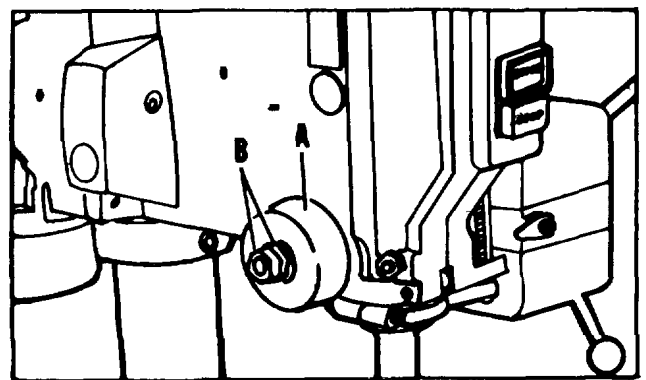

Figure 1. Adjusting Spindle
For the purpose of automatically returning the spindle upward after a hole has been drilled, a spring is provided enclosed in the case (A) Fig. 1, and is located on the left side of the drill press head. This spring has been properly adjusted at the factory and this adjustment should not be disturbed unless absolutely necessary.
1. Back off the two nuts (B) Fig. 1. NOTE: Do not remove the inside nut from the shaft. The nuts (B) should be backed off just far enough so that the spring housing (A) can be disengaged from the roll pin in the head casting.
2. With a firm hold on the spring housing (A) Fig. 1, disengage it from the pin in the drill press head, by pulling the housing straight out, and turn the housing counterclockwise to increase or clockwise to decrease tension. CAUTION: BE CAREFUL NOT TO BOTTOM THE RETURN SPRING WHILE TURNING THE HOUSING COUNTERCLOCKWISE. THERE SHOULD BE ENOUGH SLACK LEFT IN THE SPRING TO PERMIT LOWERING THE SPINDLE THE FULL AMOUNT OF TRAVEL. Be sure the pin in the drill press head is engaged with the spring housing before releasing grip.
3. Retighten the two nuts (B) Fig. 1. NOTE: Do not over-tighten the inside nut against the spring housing (A) as this may cause binding of the pinion shaft.